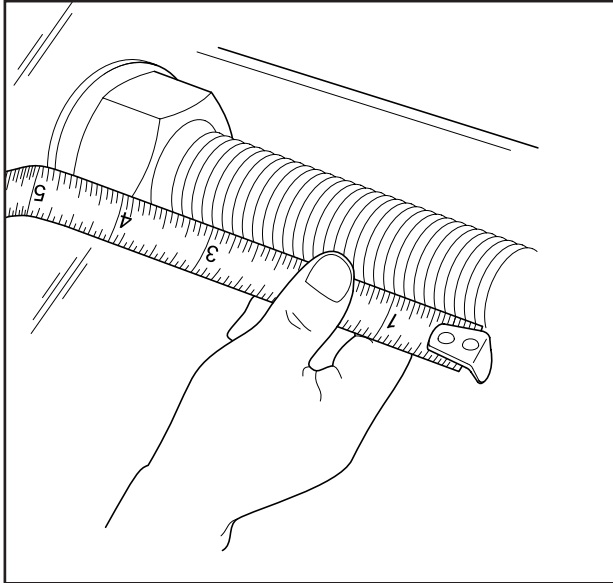
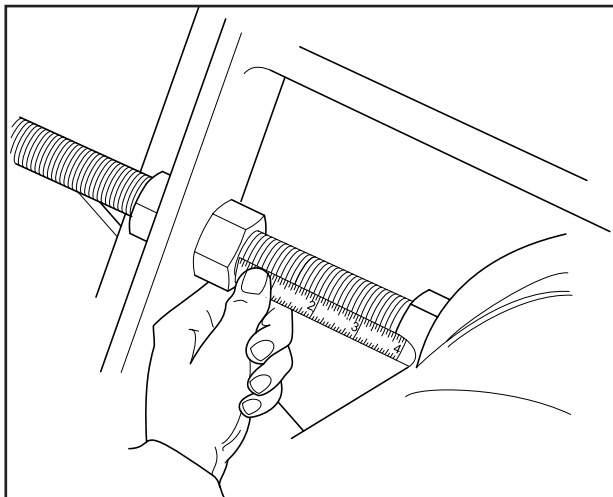

FIGURE 4-10. CHAIN ADJUSTMENT
FIGURE 4-11. CHAIN ADJUSTMENT DRIVE SIDE
2. Loosen the nuts securing bracket (24) and bearing (13).
3. Loosen the jam nut of screw (7).
4. Adjust screw (7) so that the distance between the jam nut and the bracket (24) is approximately 4 inches (see Figure 4-10).
5. Tighten the jam nut on screw (7) to prevent a position change.
6. On the drive side, loosen the screws securing the top and bottom of the torque hub mount (4).
7. Loosen the jam nut on the adjusting screw (7) for the drive side.
8. Adjust screw (7) so that the distance between the jam nut and the torque hub mount (4) is approximately 4 inches (see Figure 4-11).
9. Tighten the jam nut on screw (7) to prevent a position change.